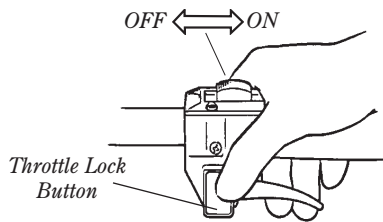

Figure 13
1. Slide the ignition switch to the "ON" position. See Figure 13.
- c. While depressing the throttle lock button, release the throttle lever. See Figure 13.